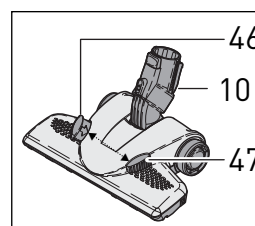

Figure 20
Kombi Nozzle (optional) - Figure 20
The Kombi nozzle (10) is adjustable for carpet or hard floors. To set for carpet, slide the up arrow button (46) to the right until it clicks into place. The hard floor dusting brush will raise up allowing the head to move over the carpet. To set for hard floors, slide the down arrow button (47) to the left until it clicks into place. The brush will lower to gently sweep your floors. **The slider in Figure 20 is set in the position for hard floors.** Remove the Kombi nozzle from the telescopic tube to clean. Fibers and hair can be pulled out of the bristles manually, or vacuum the bristles with the telescopic tube. The brush strip is removable for cleaning and replacement.